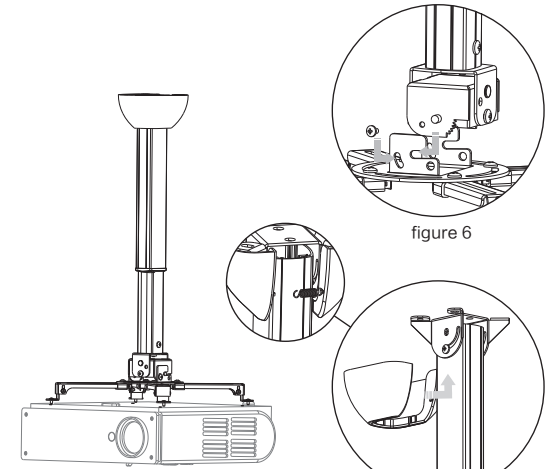

figure 6
- 3 Hang the installation bracket (projector has been installed) to the adjuster as figure 6. And then put in the screws (accessory ③), but do not fasten. Pull the top cup to the main bar, and then invaginate the spring as figure 7